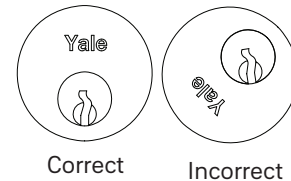

Figure 10
- Yale logo must be horizontal and on top. (See Figure 10.)